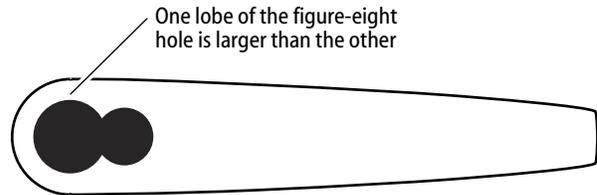

Figure 3 BEST's Schlage adaptation lever – front view
**Note:** This lever was either included with a complete lock or packaged as part of an adaptation kit. See Figure 3.